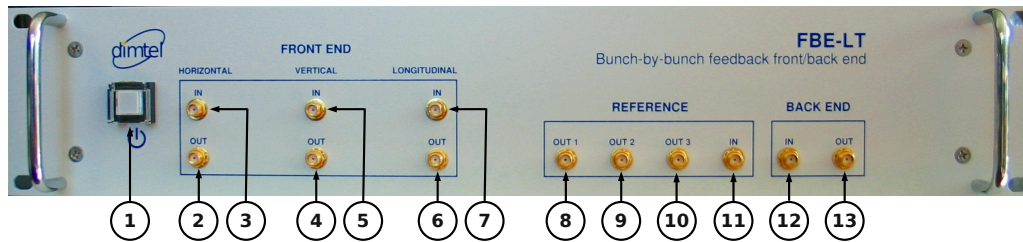

Figure 2: Front panel features
2. Connect radio frequency (**RF**) clock at 3 dBm nominal level (Fig. 2, item 5);
3. Connect the reference output (Fig. 2, item 8) to the CLK input of the iGp/iGp12;
5. Connect the front-end input (Fig. 2, item 3, 5, or 7) to the beam signal at the appropriate level;
6. Connect the front-end output (Fig. 2, item 2, 4, or 6) to the IN+ or IN- of the iGp/iGp12. Terminate the unused iGp/iGp12 input with a wideband 50 Ω SMA terminator;
7. Connect the back-end input (Fig. 2, item 6) to the OUT+ or OUT- of the iGp/iGp12. Terminate the unused iGp/iGp12 output with a wideband 50 Ω SMA terminator. When using iGp12, place a 4 dB attenuator between the DAC output and the back-end input;
8. Connect the back-end output (Fig. 2, item 7) to the power amplifier input;
10. Push the power button (Fig 2, item 1) to turn on the system;